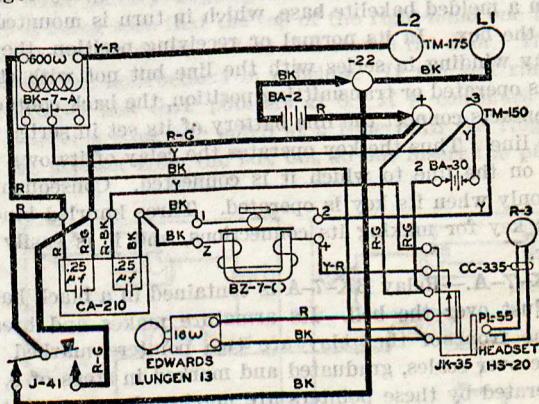

FIGURE 3.—Telegraph set TG-5-A, circuit diagram.
11. **Circuit diagram.**—The circuit diagram shown in figure 3 is a copy of that mounted in the cover of the box. In this diagram, colors of the wires are abbreviated as: BK, black; R, red; R-BK, red-black; R-G, red-green; Y, yellow; Y-R, yellow-red. The interrupter BZ-7-A, forming part of the sets purchased on Order No. 16815-N. Y., is shown in this figure as BZ-7-().
13. Capacitor CA-210.—Capacitor CA-210, located just under the bell, consists of two 0.25-microfarad units inclosed in a metal can. The left-hand unit in figure 3 is connected across the front contacts of the key to eliminate key clicks and, when the plug is in the jack, the right-hand unit is connected in series with the headset to prevent the flow of direct current through the headset windings.
16. Jack JK-35.—Jack JK-35 is a two-conductor, tip-and-sleeve jack with spring contacts which give the equipment of a single-pole, double-throw switch. It is located at the lower right-hand corner of the box. The bell is normally in series with the local battery and the relay contacts before the plug is inserted. Figure 3 shows the spring contacts in their normal position; that is, with the plug *not* inserted in the jack. After the plug is inserted, the local battery is switched to the interrupter and the headset is connected in series with the relay contacts and the right-hand unit of the capacitor.
18. Relay BK-7-A.—Relay BK-7-A is contained in a black bakelite housing and is located just over the bell. Its armature makes and breaks the relay contacts. On the front of the relay are two pointers marked SPRING and GAP which move over scales, graduated and marked in steps of 5, from 0 to 20. The controls operated by these pointers are notched for each unit setting, however, and may be set at any unit at or between the scale markings. The SPRING pointer controls the amount of tension on the spring of the armature and the GAP pointer controls the air gap between the armature and the magnet core ends. The relay winding has a resistance of 600 ohms, and the relay may be adjusted to operate on a current as low as 1.0 milliamperes. (See par. 24.) Terminals at one end provide connections to the winding and the contacts. An opening in the top of the housing permits cleaning the relay contacts with the burnisher supplied with the set. Another opening in the bottom of this housing permits access to the tension spring and thread. If the plug is in the jack, the relay contacts connect the local battery in series with the interrupter and the headset; if the plug is not in the jack, the relay contacts connect the local battery in series with the bell. Breaking the relay contacts opens those circuits. In figure 3, the relay contacts are broken.